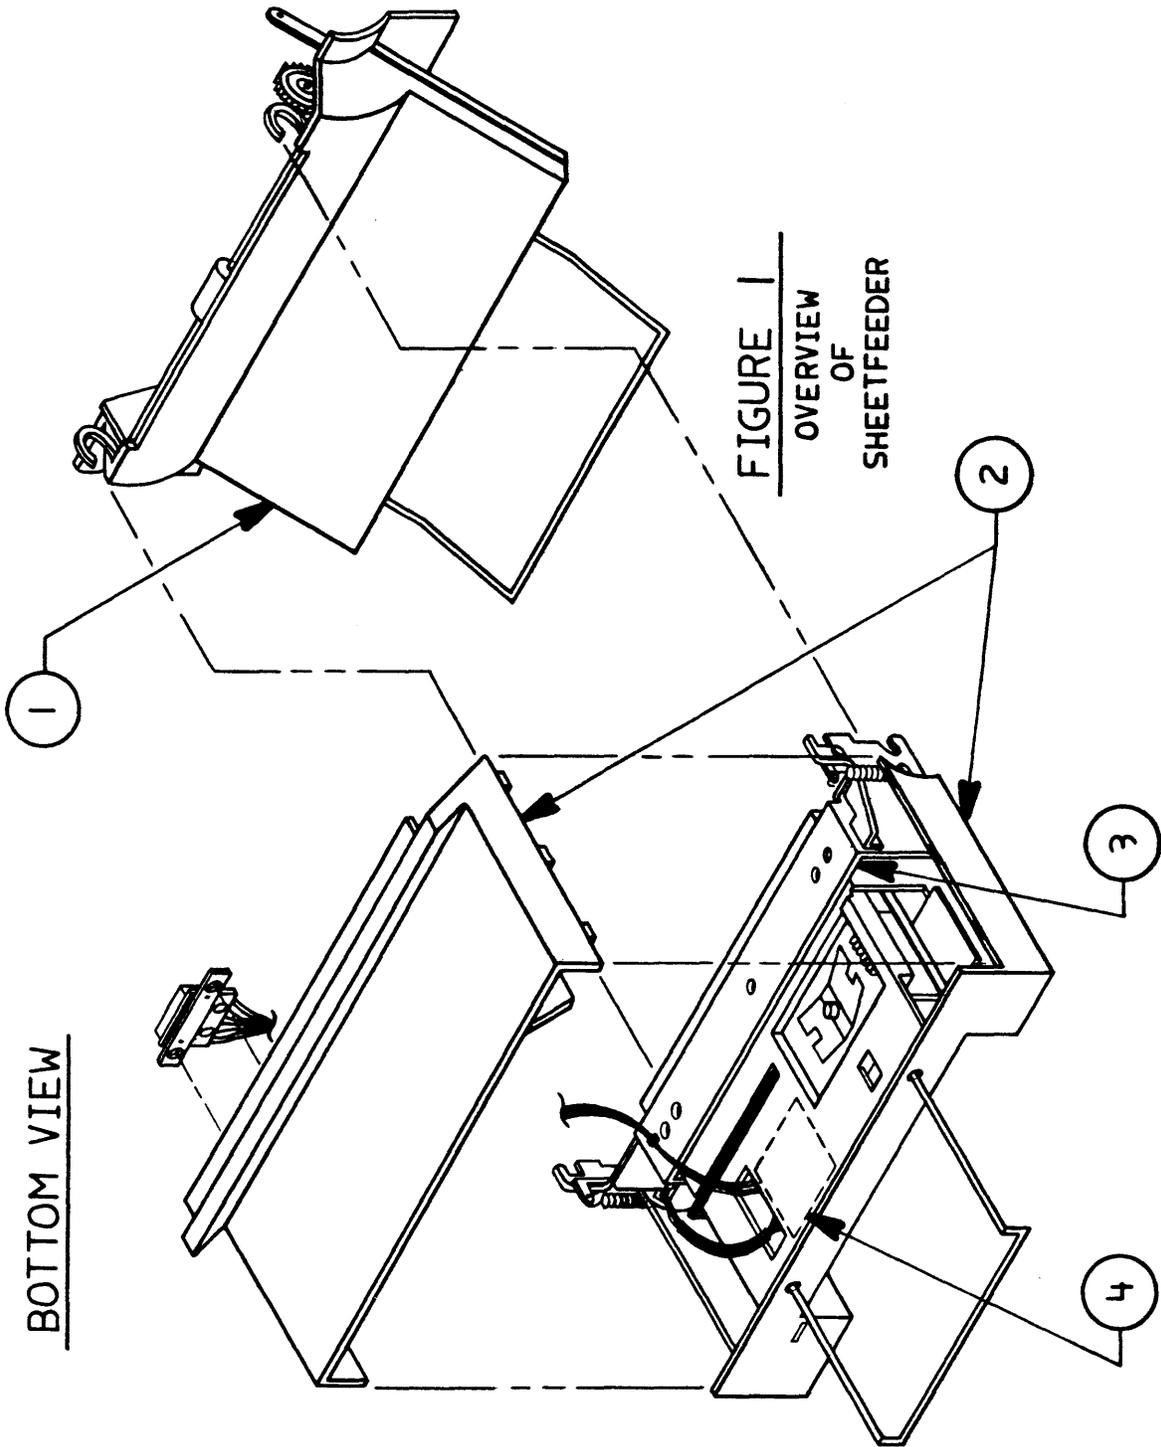

FIGURE 1
- IPL.3 Overview (Figure 1)
□ OVERVIEW (Figure 1)